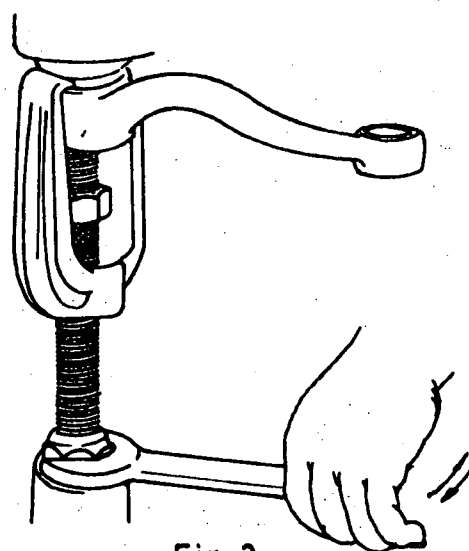

Fig. 3
- e) Remove the nut from the pitman arm, install the extractor and remove the pitman arm (fig. 3).